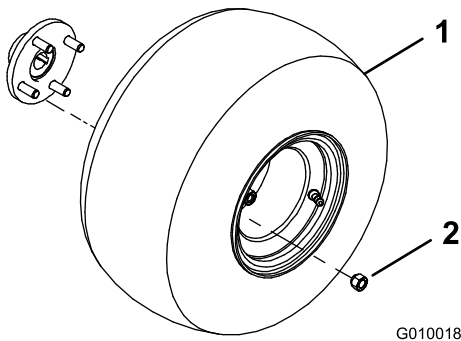

Figure 3
2. Mount a wheel assembly onto each rear wheel hub (Figure 3).
3. Install the lug nuts (Figure 3) and tighten them to 61 to 75 N-m (45 to 55 ft-lb).